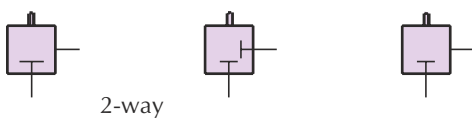

Figure 10
**8. 2-way valves are seldom used in air logic circuits but on those occasions where a 2-way valve is needed the 3-way valve symbol can be used, with an appropriate notation as to its function in the circuit such as shown in figure 10.**